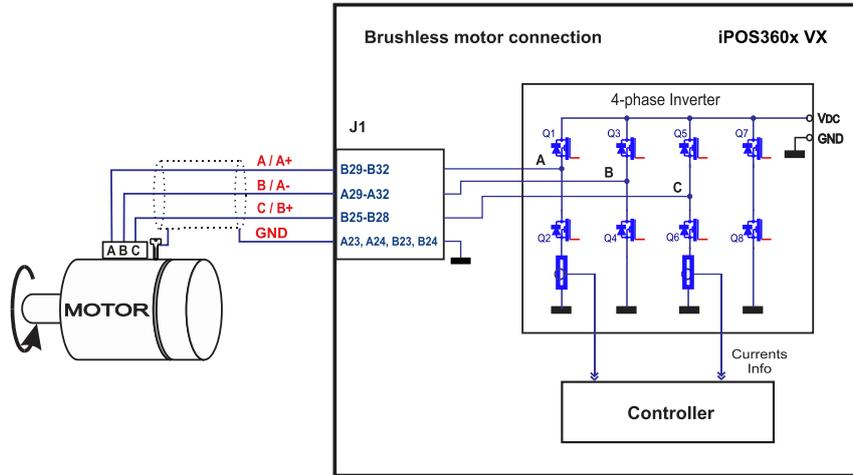

Figure 3.17. Brushless motor connection
2. Default input range for analog inputs is 0÷5 V for REF and FBDK. For a +/-10 V range, see Figure 3.17.